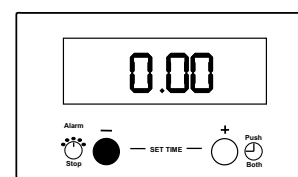

Fig.5
To set press button (1) and the display will read 0.00, see Fig. 5.